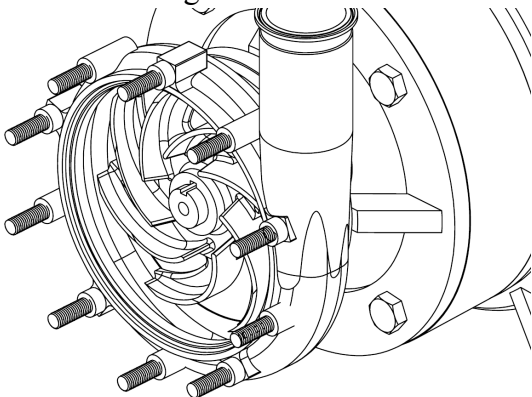

Figure 17
8. Install the impeller. Slide the impeller onto the shaft making sure to align the keyway in the impeller with the keyway in the shaft. Push the impeller into the seal driver. Figure 17.